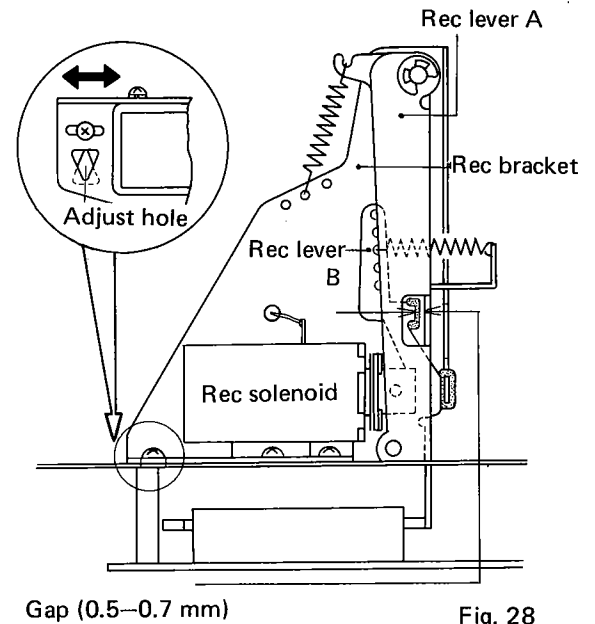

Fig. 28
10.6 RECORD LEVER A AND B OPERATION (Fig. 28)
1. Set in recording mode, insert a screwdriver into the adjustment hole (Fig. 28) and adjust the record bracket so that the gap indicated by the arrows becomes 0.5 – 0.7mm.